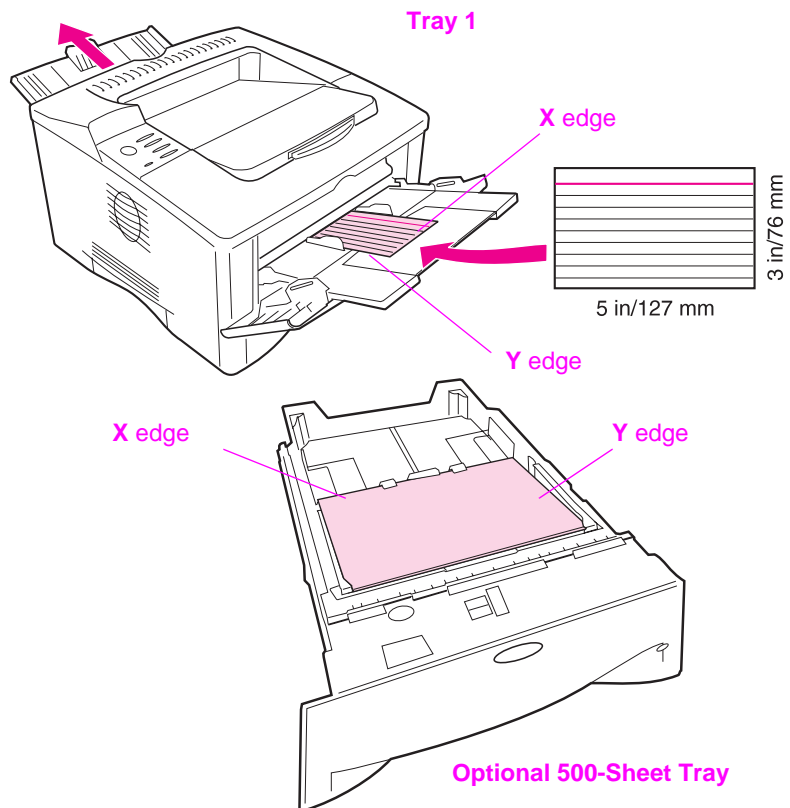

Figure 18 Printing Custom-Size Paper
- 3 From the Printing Menu, set the X dimension (the front edge of the paper) as shown in Figure 18. X can be 3 to 12.28 inches (76 to 312 mm) for Tray 1 or 5.8 to 11.7 inches (148 to 297 mm) for the 500-sheet tray (optional). Set the Y dimension (the side edge of the paper) as shown in Figure 18. Y can be 5 to 18.5 inches (127 to 470 mm) for Tray 1 or 8.2 to 17 inches (210 to 432 mm) for the 500-sheet tray (optional).